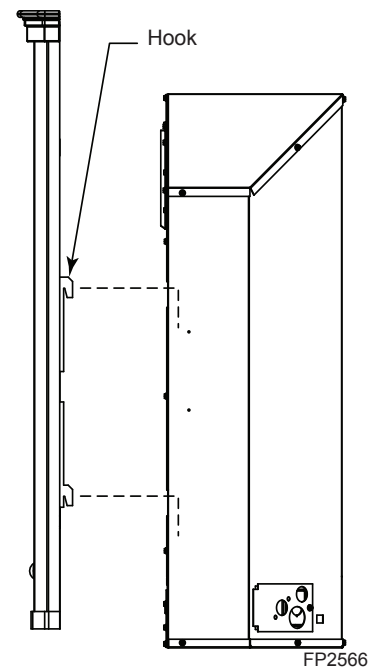

Figure 29
4. Firmly push down on top of face until the hooks bottom out with the slots on the unit. *Figure 29*